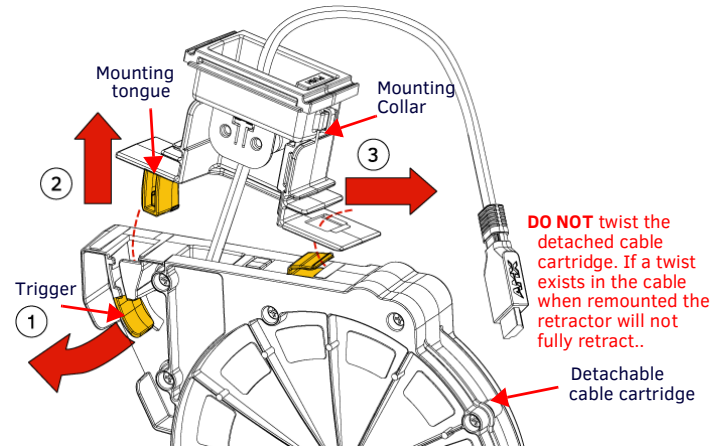

FIG. 4 HPX-AV102-USB-R MOUNTING COLLAR REMOVAL
6. Pull the cable cartridge trigger (FIG. 4) to release the mounting collar tongue.
8. Feed the mounting collar up through the table cutout to reach the HPX base assembly. Align the mounting notches on the mounting collar with the mounting rails on the HPX (FIG. 4).
- Push the cable cartridge trigger up onto the mounting collar tongue until it latches (opposite of FIG. 4).
- Detach the cable cartridge from the mounting collar (FIG. 4).